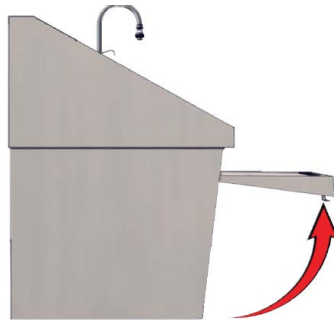

Figure 25: Door in fully opened position
2. Swing the door fully open to access the hinges (Figure 25).